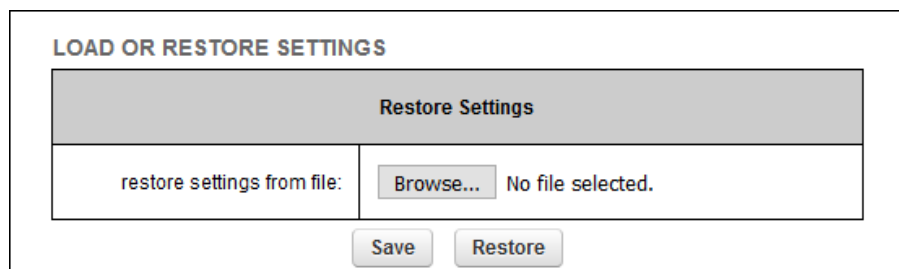

Figure 60. Configurator GUI (LOAD OR RESTORE SETTINGS dialog)
- The **LOAD OR RESTORE SETTINGS** dialog will be shown (Figure 60 (page 136)).